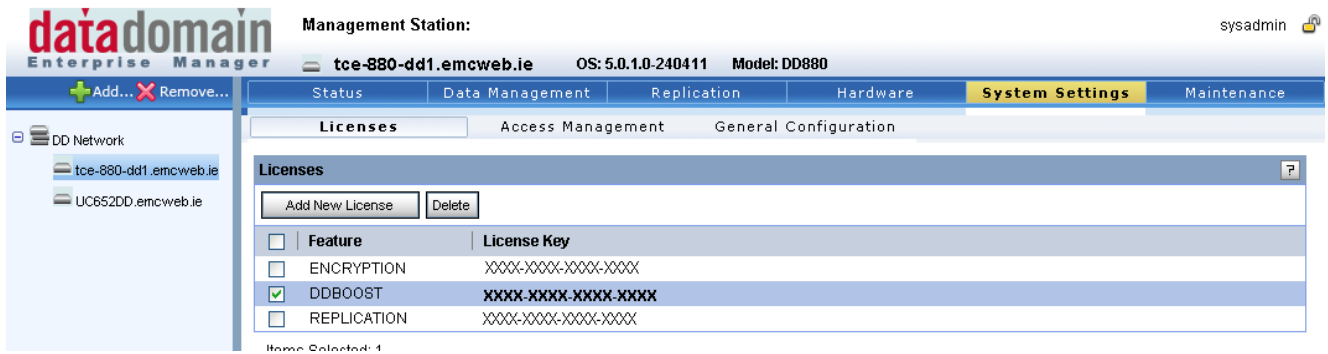

Figure 4. DD Boost license verification
1. Check the DD Boost license in EMC Data Domain Enterprise Manager as shown in Figure 4.